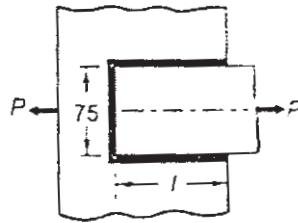

Figure 5. Welded joint
- b) A plate 75 mm wide & 10 mm thick is joined with another steel plate by means of single transverse and double parallel fillet welds as shown in Figure 5. The joint is subjected to a maximum tensile force of 55 kN. The permissible tensile & shear stresses in the weld material are 70 & 50 N/mm2. Determine the required length of each parallel fillet weld. [10]